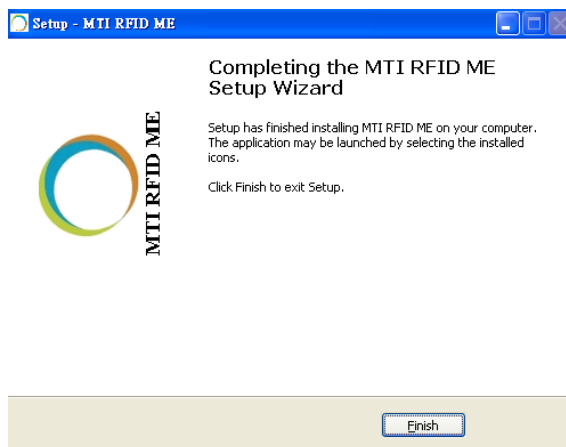

Figure 7
2.1.7. Congratulations! You have completed the MTI RFID ME software installation. Press “Finish” to close the window. Select any of the installed icons to launch the MTI Reader Suite program as shown in Figure 7.